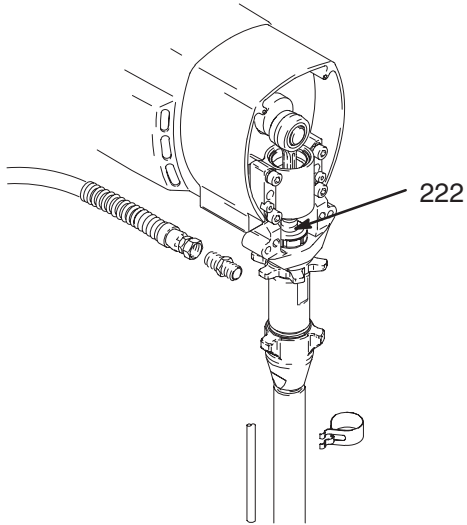

Fig. 20
1. Flush pump. Relieve pressure. Fig. 20. Cycle pump with piston rod (222) in its lowest position.
2. Fig. 20. Unscrew suction tube and hose from pump.